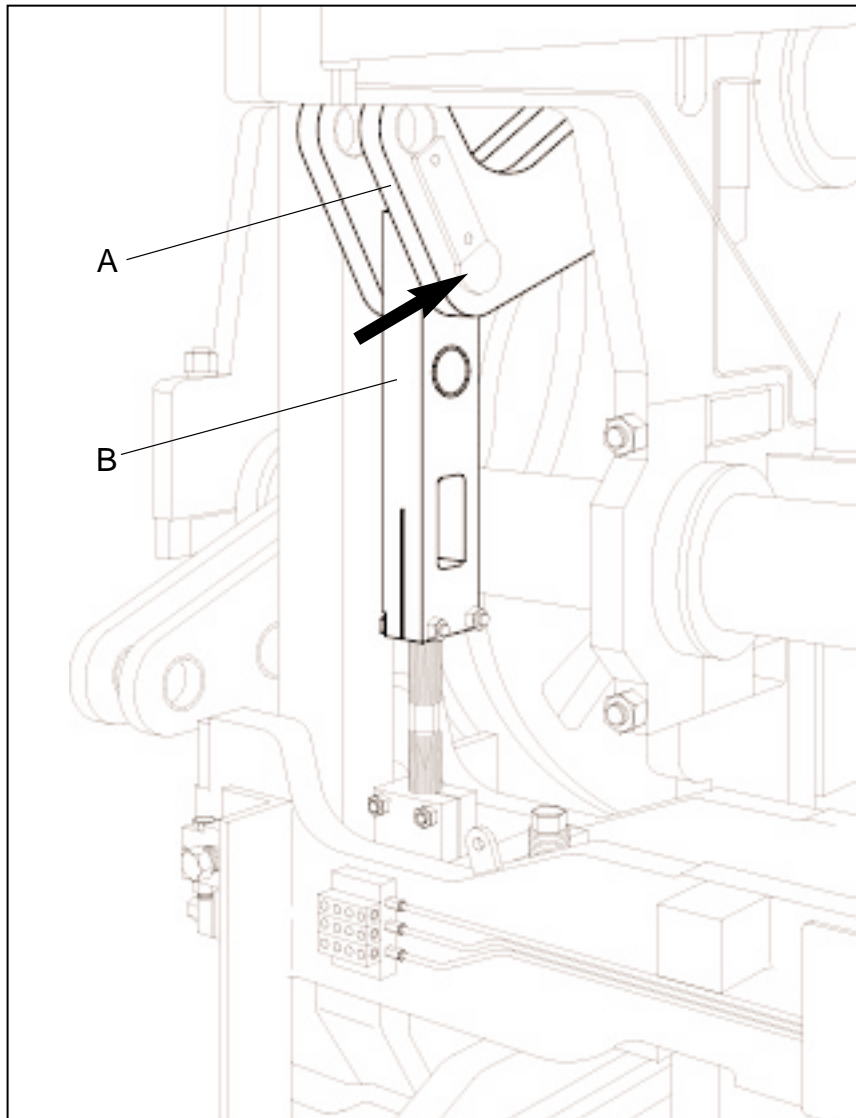

Figure 4.57 STRIPPER HEAD SHAFT AND LINKS.
- b. Stripper head shaft (A) - position pins in inside holes (short stroke) (see figure 4.57).
- c. Stripper head links (B) - position pins in top holes. Adjust links to obtain approximately **105mm (4 1/8")** between link ends (see figure 4.57).